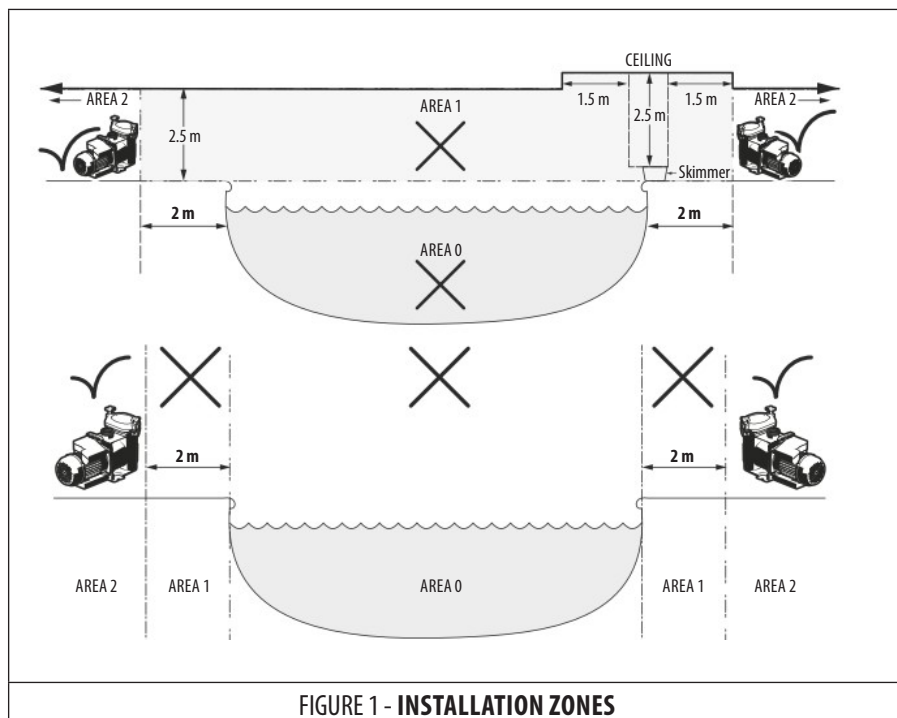

FIGURE 1 - INSTALLATION ZONES
- In Area 0 and Area 1 (FIGURE 1).